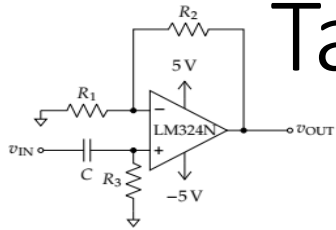

Figure 13.11: High Pass Filter
1. Calculate the cutoff frequency and gain of the filter in figure 13.11 when  $R_1 = 1\text{ k}\Omega$ ,  $R_2 = 33\text{ k}\Omega$ ,  $R_3 = 330\text{ k}\Omega$ , and  $C = 1\text{ }\mu\text{F}$ .
2. Construct the filter in figure 13.11.